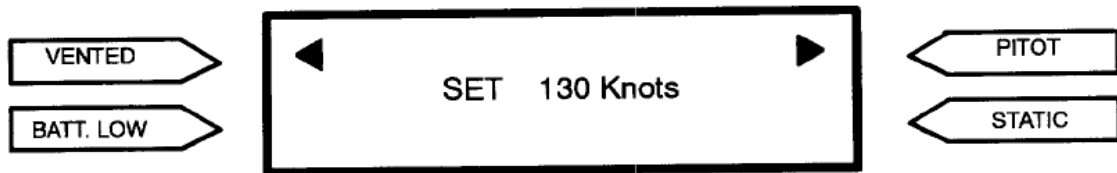

Figure 9 Default Set Point
- E. When the default Set Point is displayed, for example 130 knots (*Figure 9*), a new Set Point can be entered by means of the +/- keys.